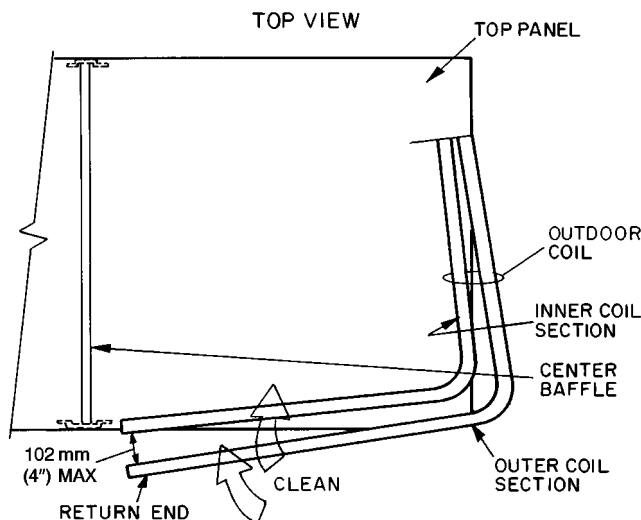

Fig. 29 — Separating Coil Sections
4. Remove device holding coil sections together at return end of outdoor coil. Carefully separate the outer coil section 76 to 102 mm (3 to 4 in.) from the inner coil section. See Fig. 29.